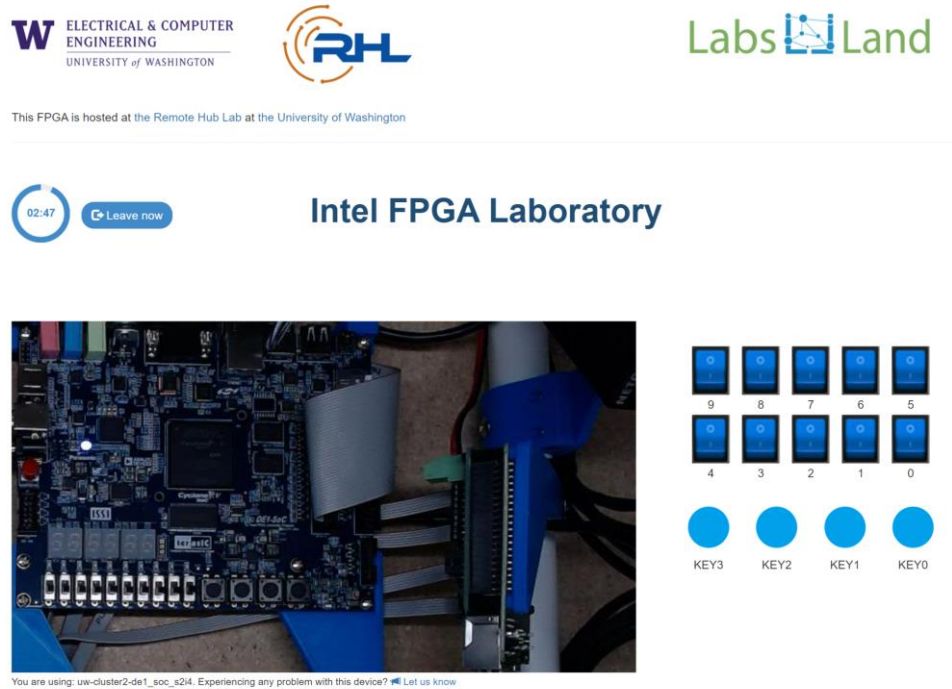

Figure 9: An FPGA on LabsLand
- f) After connecting to the remote FPGA, you will see a webpage like Figure 9's.